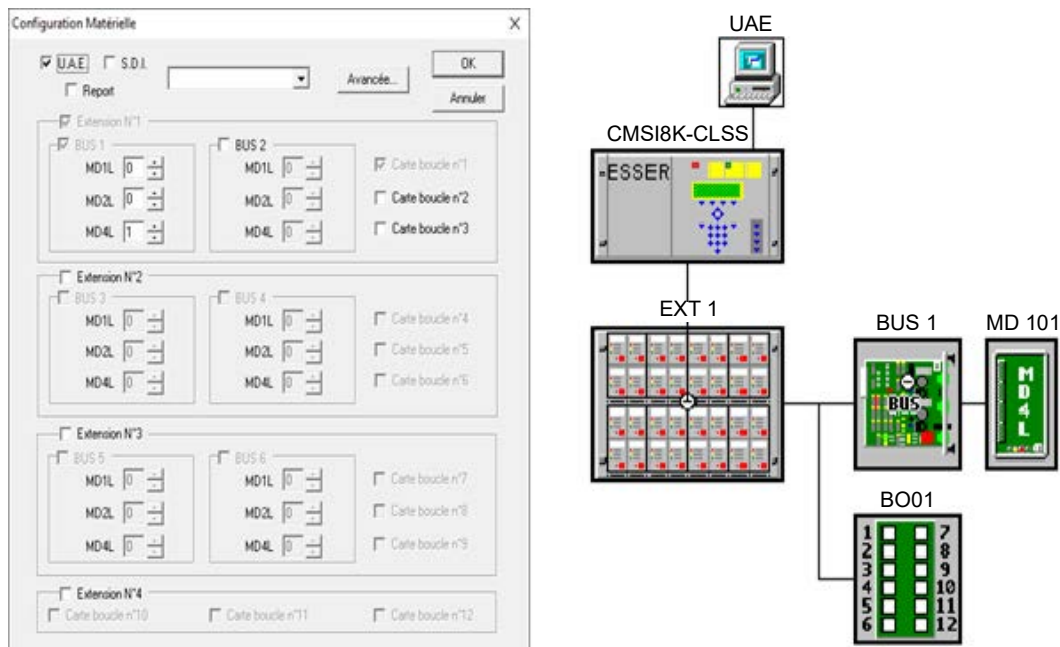

Figure C.14: CMSI Panel Settings
1. Add the UAE settings on the panel and enable them as shown in Figure C.14.